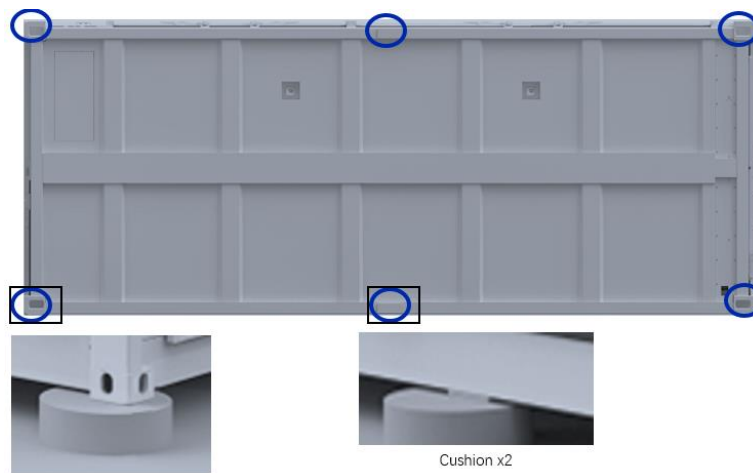

Figure 5-3 Bottom foundation points of a container
- It is mandatory to fix four corner foundation points as shown in Figure 5-3